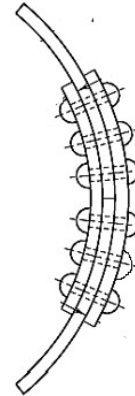

Fig. 2
Q.3 A cylindrical pressure vessel with an inside diameter of 1.5 m is subjected to an internal steam pressure of 1.5 MPa (Fig. 2). It is made from a steel plate with a triple-riveted, double-strap longitudinal butt joint, featuring equal straps. The pitch of the rivets in the outer row is twice that of the pitch of the rivets in the inner rows. The rivets are arranged in a zigzag pattern. The efficiency of the riveted joint should be at least 80%. The permissible stresses for the plate and rivets in tension, shear, and compression are 80, 60, and 120 N/mm², respectively. Assume that the rivet in double shear is 1.875 times stronger than in single shear. A minimum corrosion allowance of 2 mm thickness is recommended. Design the joint and calculate: